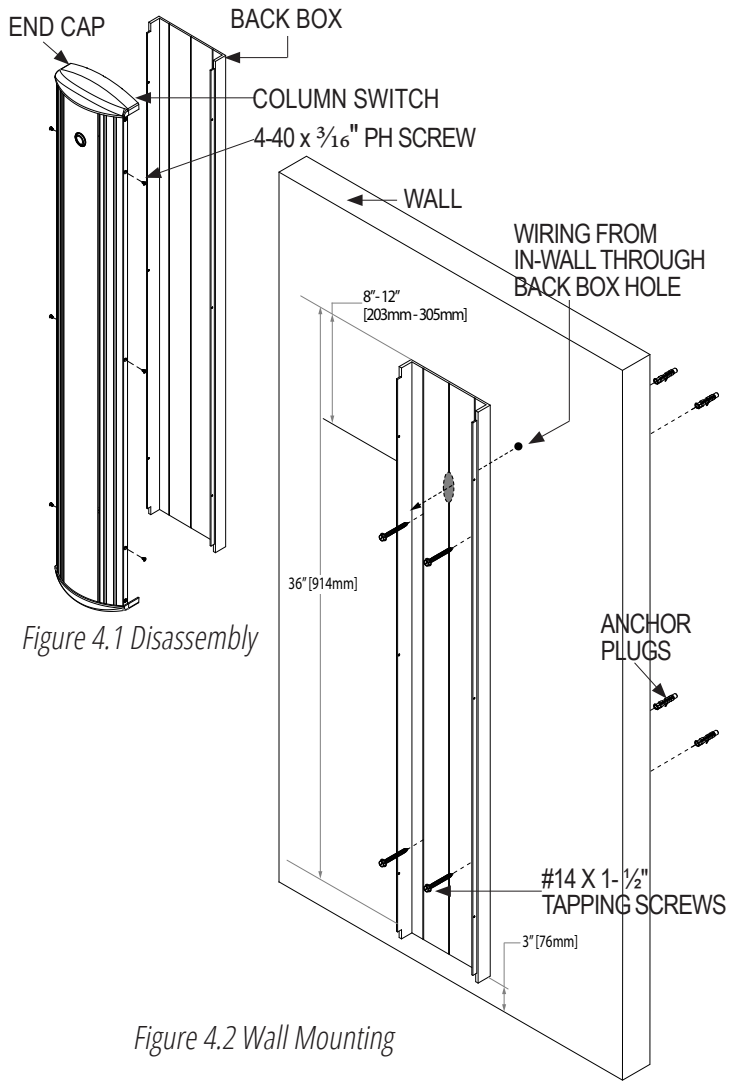

Figure 4.2 Wall Mounting
5. Locate and mark the matching holes for mounting screws anywhere along the Guide Channels of the Back Box and align them with the corresponding anchor locations on the wall. (Figure 4.2 and 4.3)
6. Drill the mounting screw holes on the Back Box using drill bit 17/64” for either #14 tapping screws or 1/4”-20 machine screws. (Figure 4.2 and 4.3)
8. Drill the 3/4" Ø hole on the Back Box for the hardwiring connection. (Figure 4.2 and 4.3)
12. Secure the Back Box to the wall with the #14 x 1-1/2" tapping screws provided. (Figure 4.2 and 4.3)
12. Secure the Back Box to the frame with the 1/4"-20 machine screws. (Figure 4.2 and 4.3)